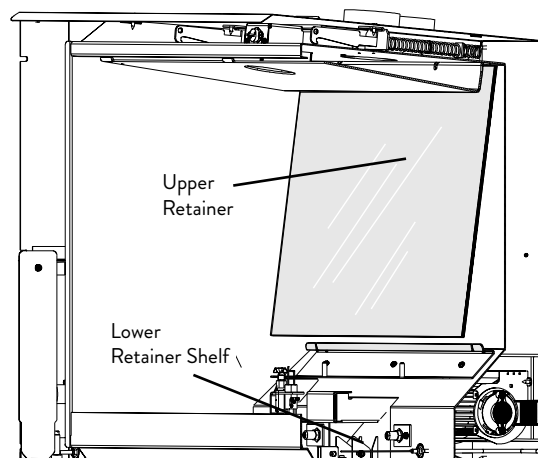

Figure 24.
2. Engage the Rear Panel up behind the Upper Retainer rail and set it on the Lower Shelf. Fig. 24.